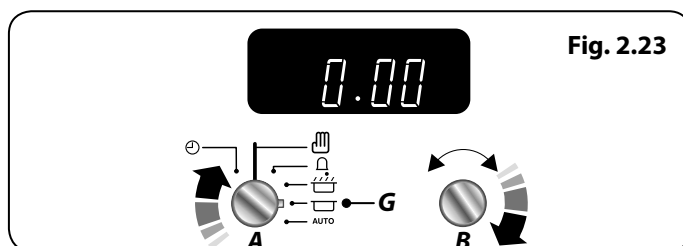

Fig. 2.23
1. Turn the **Timer (A)** knob to the **Stop Time (G)** setting (**Fig. 2.23**).
2. Turn the **Adjusting (B)** knob clockwise, the display will show the current time of day (**Fig. 2.23**).